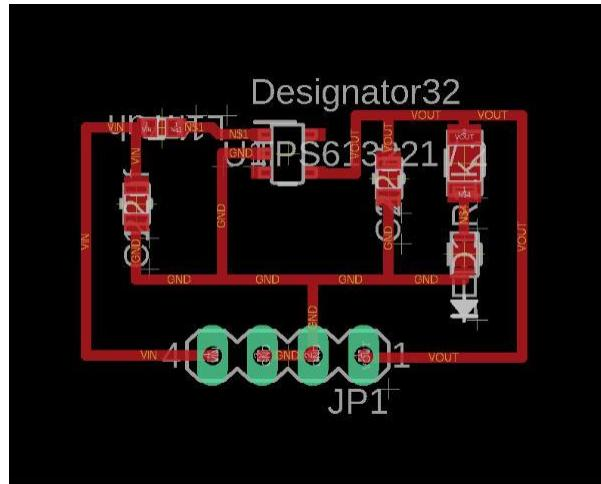

Figure 22: Board window showing the air wires manually routed.
3.21: Figure 22 shows the board manually traced. Some of the parts had to be moved slightly to make the manual tracing operating easier using the trace air wire tool. Your board should look similar to this board.